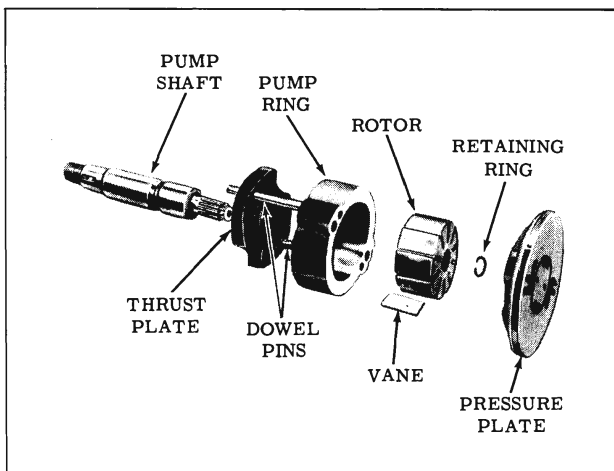

Fig. 4-244 Shaft and Rotor Assembly
7. Lubricate outside diameter and chamfer of pressure plate with petrolatum to insure against damaging "O" ring and install on dowel pins with ported face toward the pump ring. Using a 2-5/8" diameter tube to apply pressure to outer edge only, seat pressure plate by means of pressure on the sleeve with the use of an arbor press. Never press or hammer on the center of the pressure plate as this may cause permanent distortion resulting in pump failure. (Pressure plate will travel about 1/16" to seat) (Fig. 4-244)